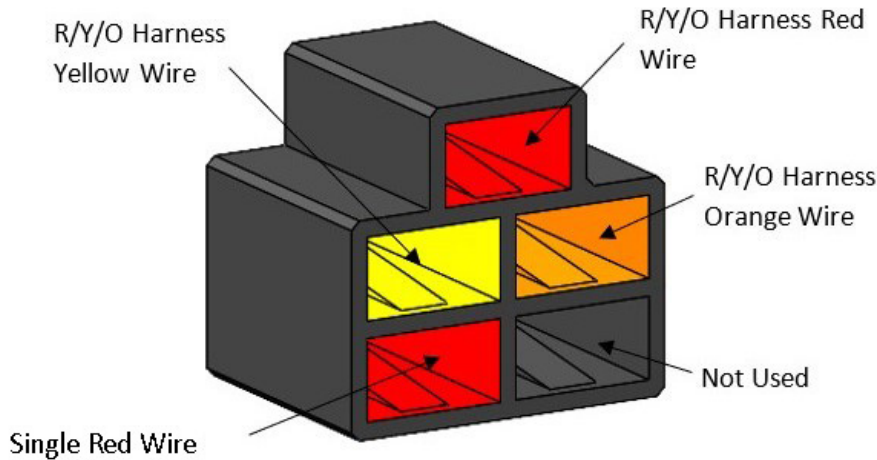

FIGURE 13
27. Locate the 36" Wiring Harness and ensure the wires are correctly connected to the 5-Pin Black Connector as shown in *FIGURE 13* and the 4-Pin White Connector as shown in *FIGURE 14*.